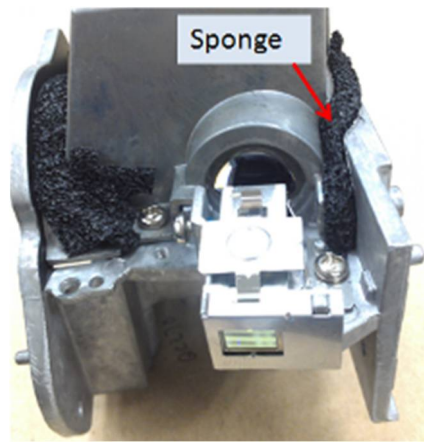

Fig. 3-4
- E. Paste “SPONGE 45MM DUST” on ”HSG ILL SUB Module” outside of sub HSG. (Fig. 3-4)